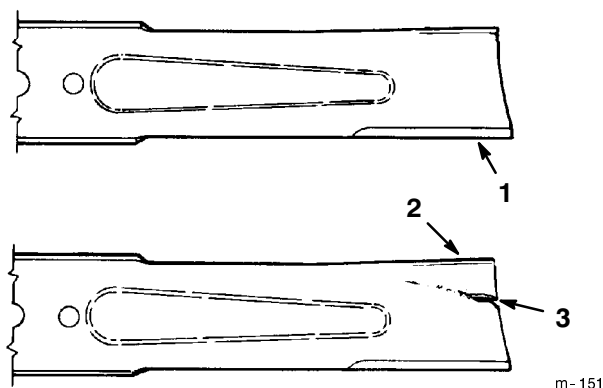

Figure 34
2. Inspect the cutting edges (Fig. 34). If the edges are not sharp or have nicks, remove the blade(s) and sharpen them; refer to Sharpening the Blade(s), page 34.
3. Inspect the blade(s), especially the curved area (Fig. 34). If you notice any damage, wear, or a slot forming in this area (Fig. 34), immediately install a new blade.